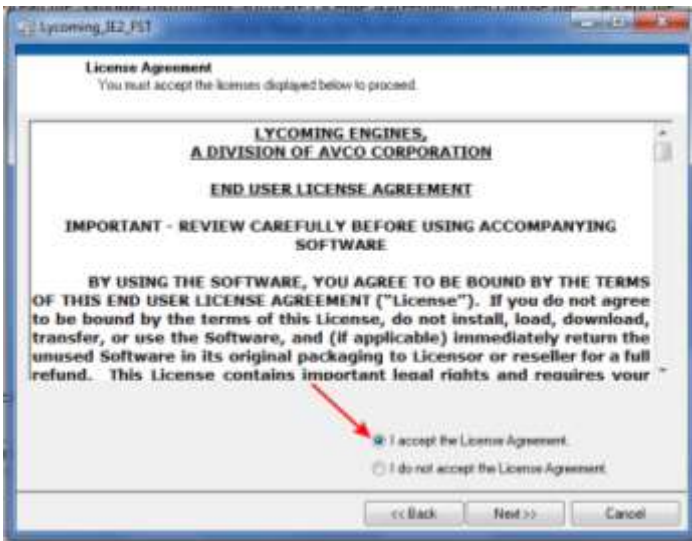

Figure C-16
- 14. Read the Lycoming Software License Agreement then choose the “I accept the License Agreement” button. Click **Next** on the License Agreement page (Figure C-16).